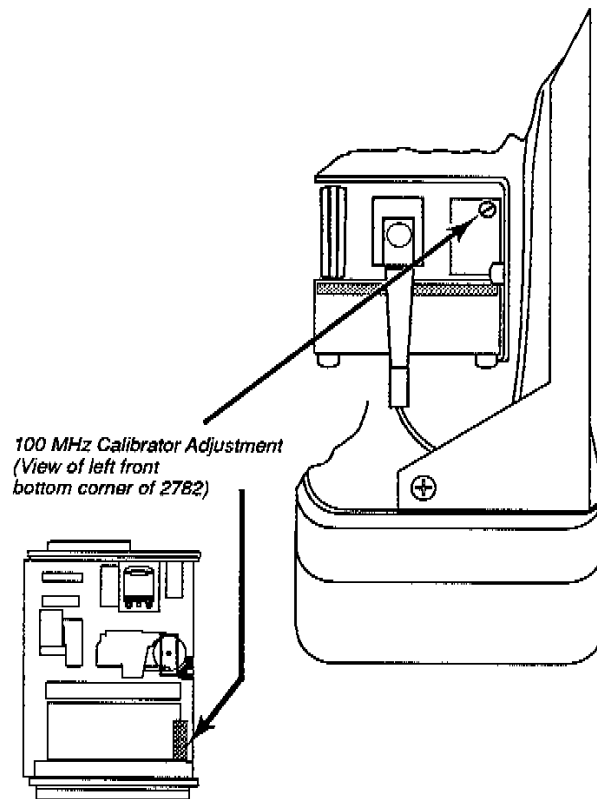

Figure 3-14. 100 MHz Amplitude Adjustment
12. Adjust the 100 MHz AMPLITUDE adjustment on the 100 MHz Calibrator module (shown in Figure 3-14) for -30.0 dBm as measured with the power meter.